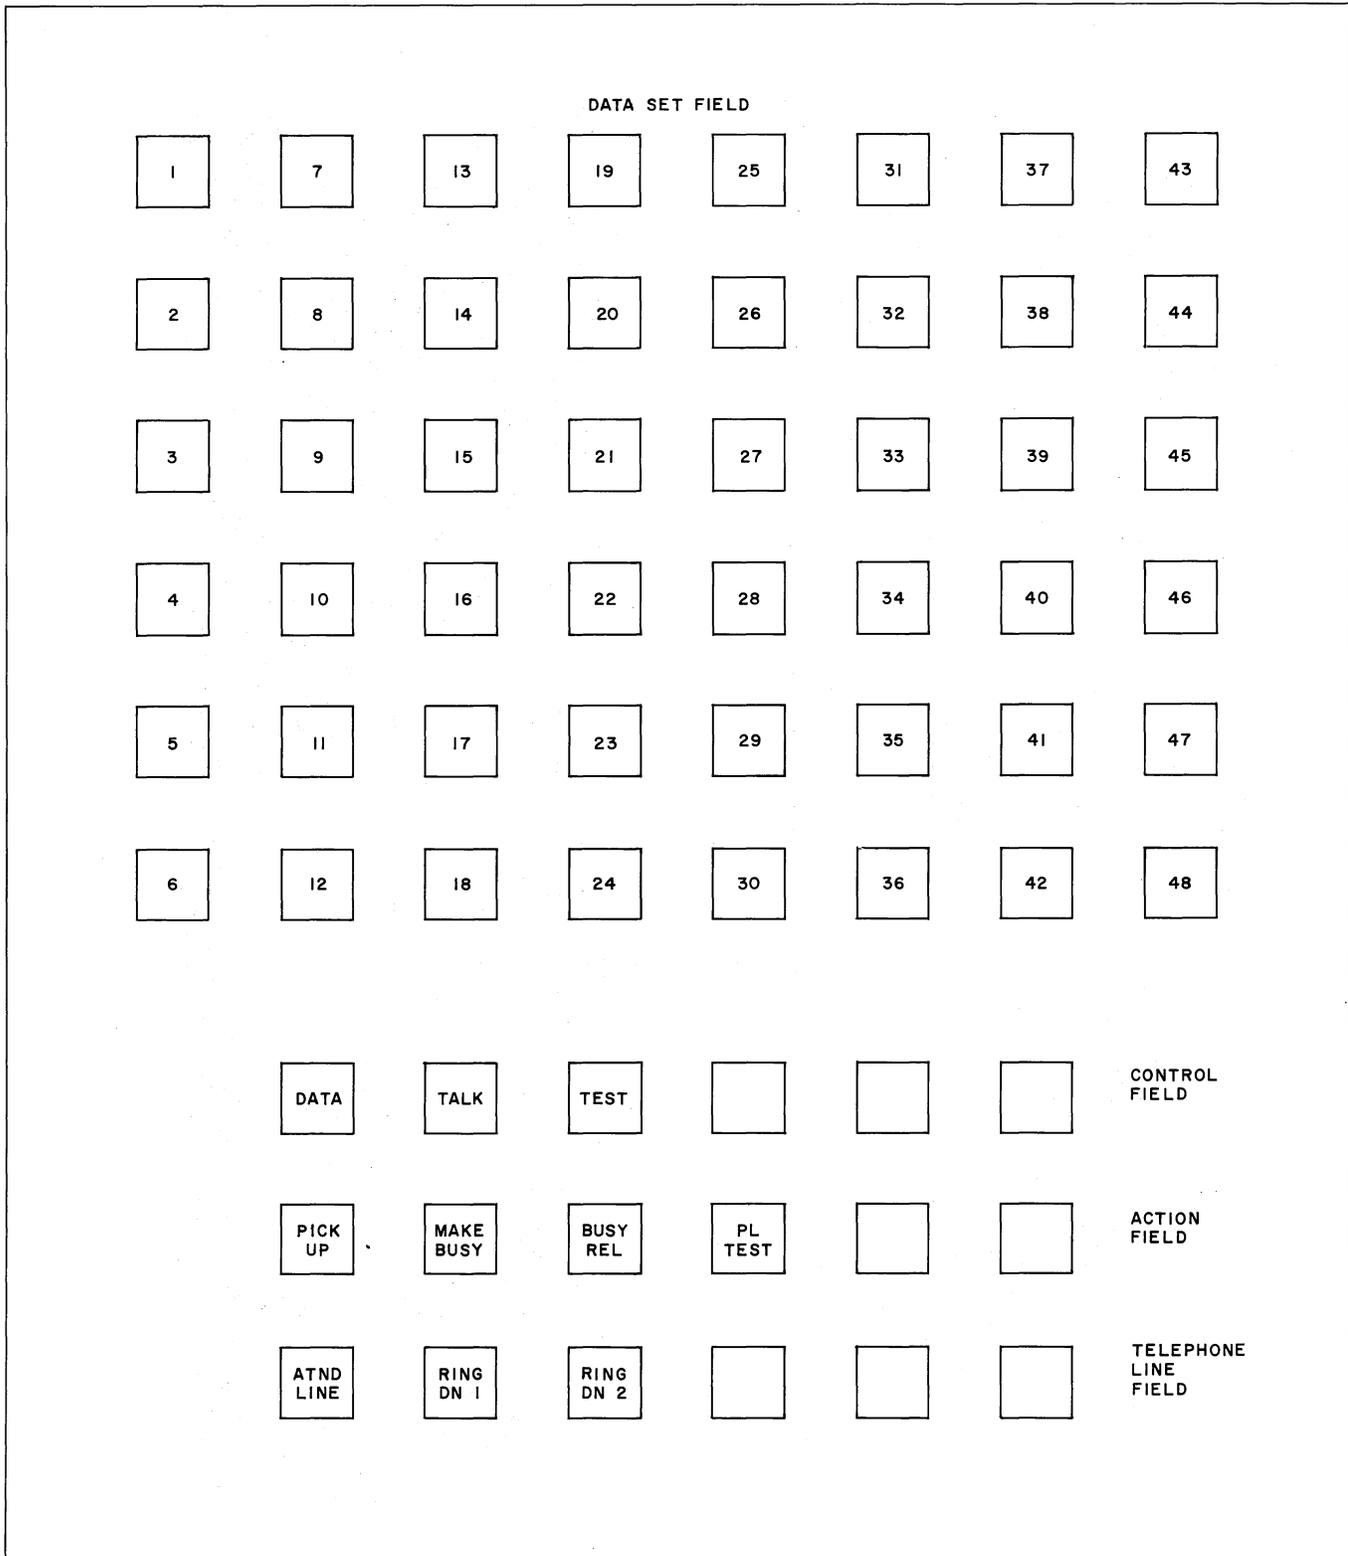

Fig. 3—Key Designations
3.05 The 48 keys of the data field (refer to Fig. 3) provide for selection of the individual data set and indicate the status of the data set.
4.01 Refer to Fig. 3 for the key designations and key field designations referred to in the following text.